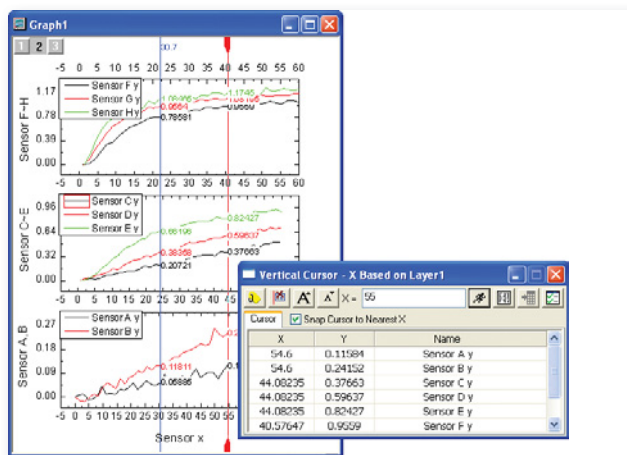

FIGURE 3: The Vertical Cursor can be used across multiple plots.
- The **Vertical Cursor Gadget** provides a mouse-draggable cursor across the “X” or independent variable that displays its intersection with the data in one or multiple plots, as shown in Figure 3.